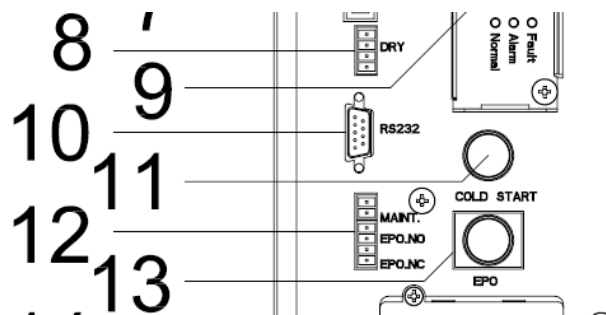

Fig. 3-6 Cold Start
3. Trigger the Cold start button, position 11 of the below drawing (Fig. 3-6).